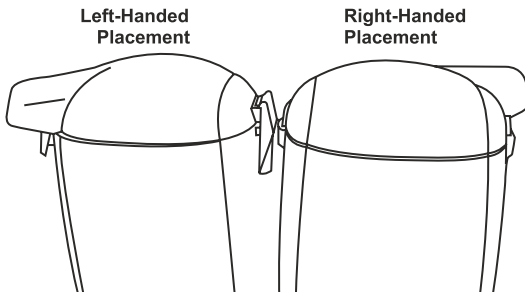

Fig 5
8. The canister lid can be replaced on the unit with the hose opening on the right or left, as per your preference. (Fig.5)